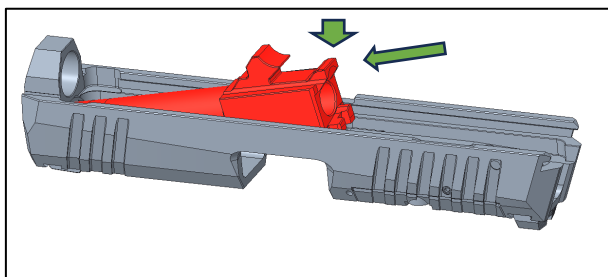

Figure 34: Inserting the barrel into the slide.
1. Turn the slide upside down and insert the barrel into the slide, muzzle first, with the flat side of the enlarged back portion facing downwards until it seats into the slide's ejection port (Figure 34).